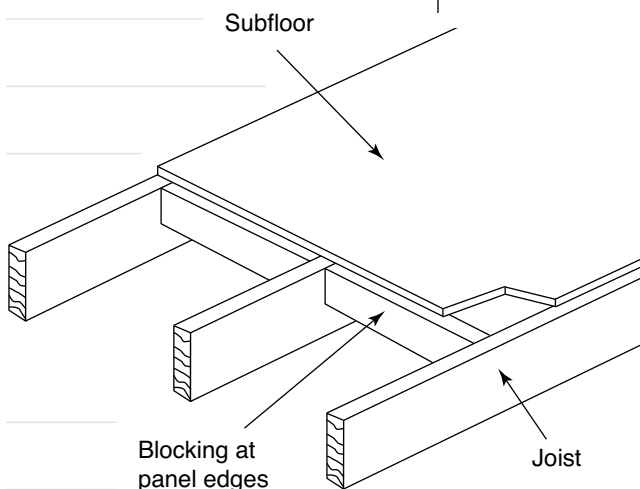

FIGURE 4
- ◆ The simplest way to eliminate movement for square-edged panels is to install blocking between the joists at all panel edges. Edge blocking is only required by the NBC in certain situations. However, in higher traffic areas, it may be worth the time and effort to block all panel edges to eliminate movement between subfloor panels. Blocking must be installed properly to prevent it from becoming a source of squeaks rather than a means of eliminating them (see Figure 4).